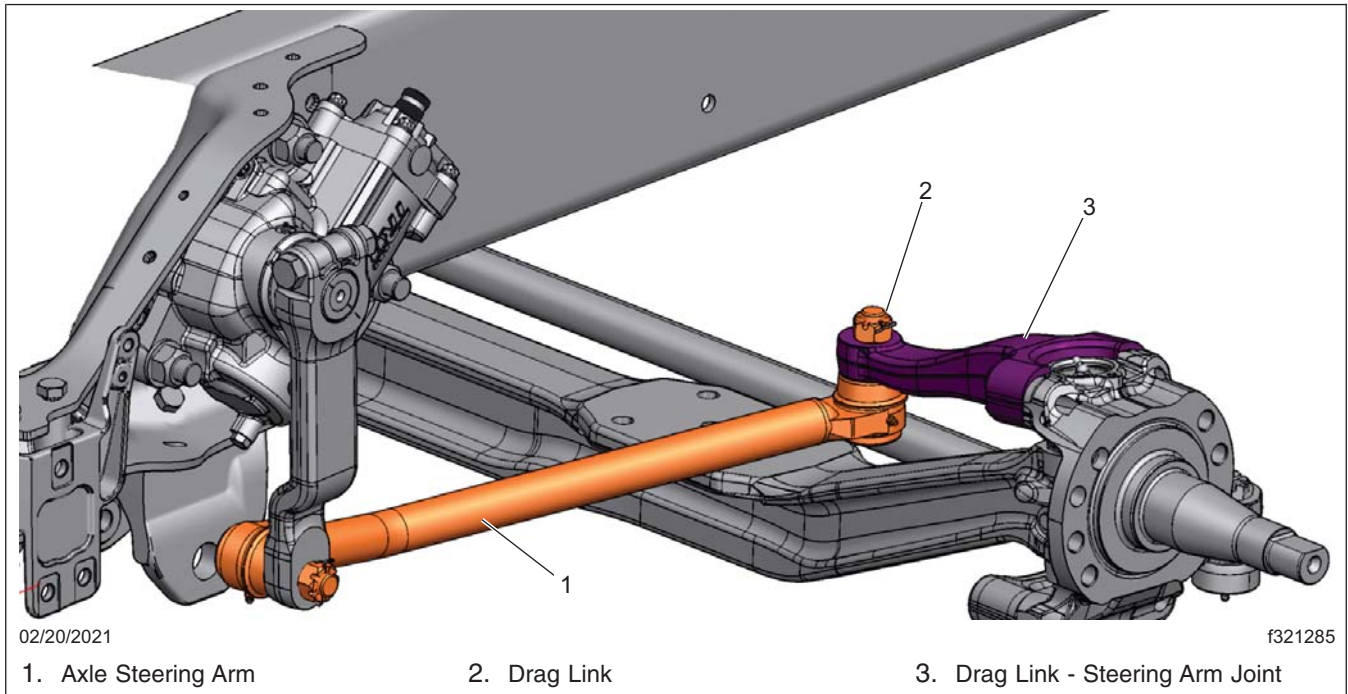

Fig. 1, Drag Link - Steering Arm Joint
4. Observe the behavior of the drag link steering arm joint. See Fig. 1.